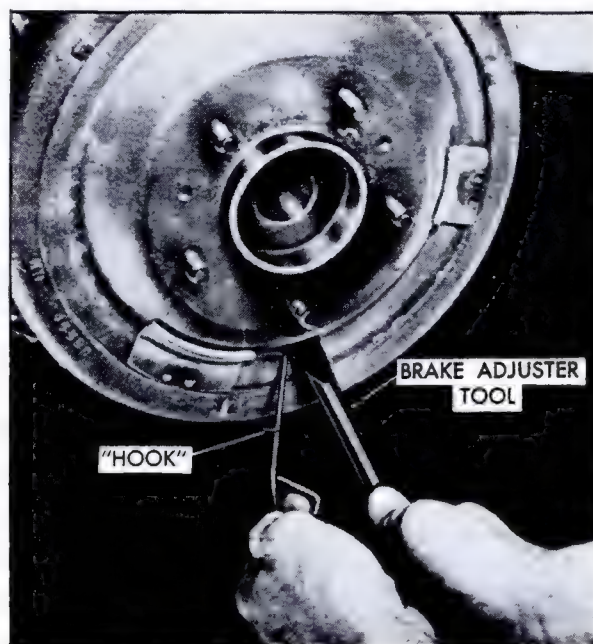

Fig. 5-4 Manual Brake Shoe Adjustment
4. Disengage adjuster pawl from star wheel with a hooked tool and back off star wheel 40 notches with a screwdriver or brake adjuster tool, Fig. 5-4.